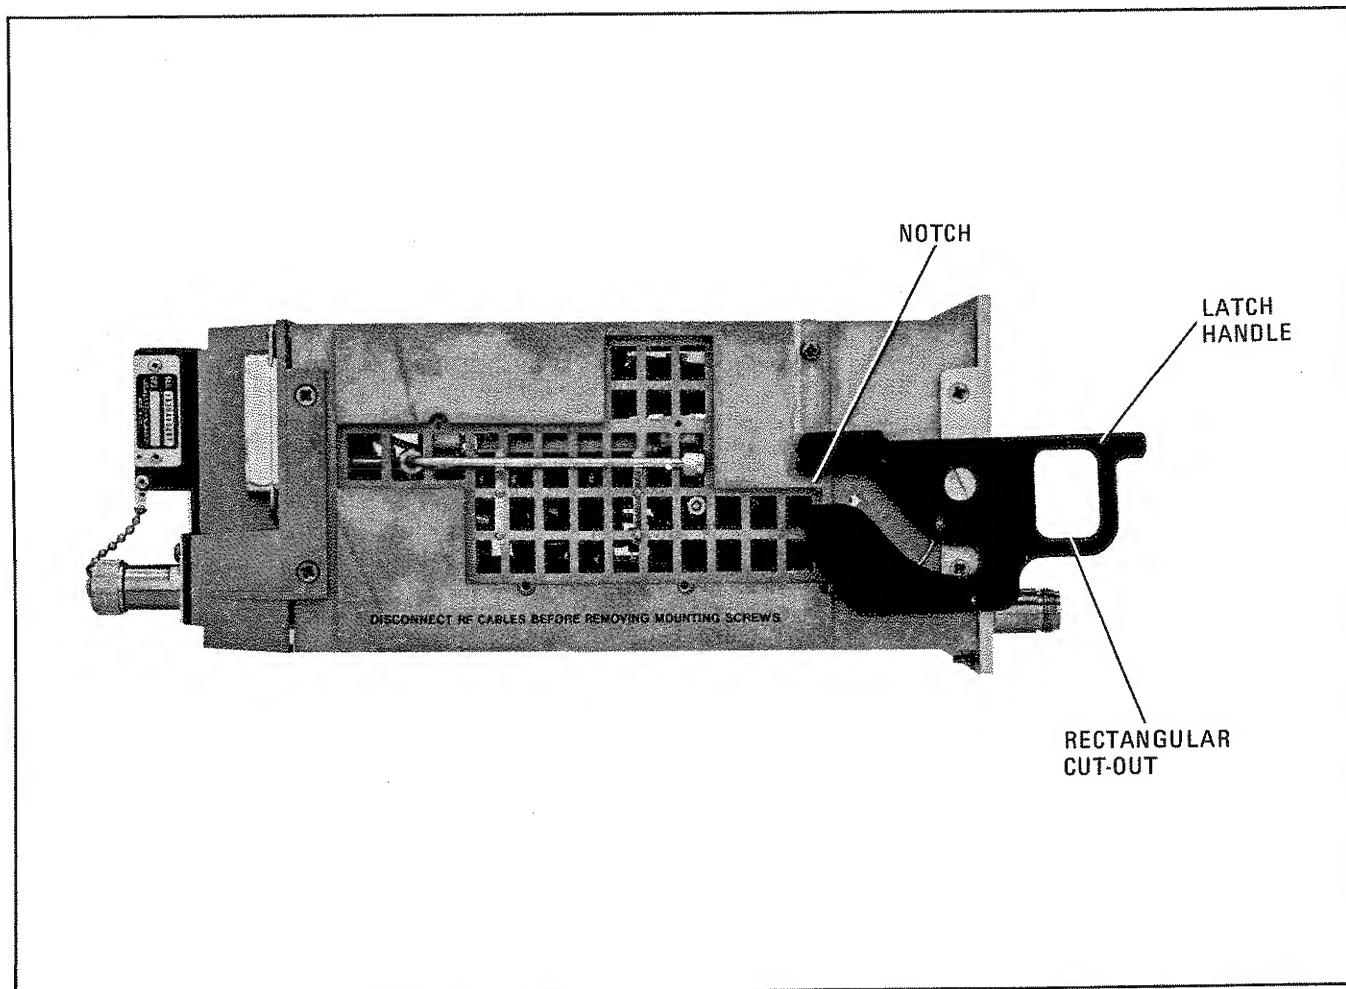

Figure 2-3. RF Plug-In Latch in Release Position
- b. Position latch handle located on left side of RF Plug-in so it is perpendicular to front panel. Portion of handle with rectangular cut-out should be facing forward and portion with notch should be facing rear of RF Plug-in as shown in Figure 2-3.
- a. Push inward on top of latch handle, shown in Figure 2-3, and pull forward and up on bottom of latch handle.